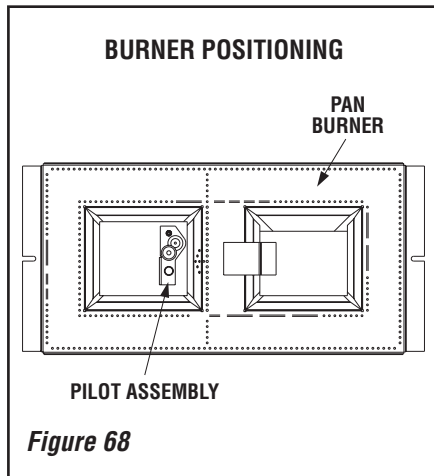

Figure 68
B. Install the burner as shown in *Figure 68*.